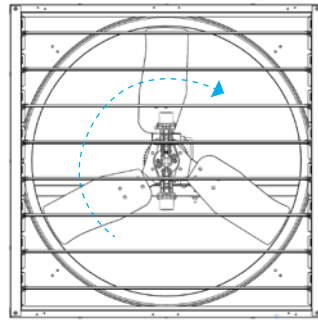

fig. 19
- check that the protection devices (fuses, magnetothermal switches) are correctly sized, and that the phases are connected in the correct order: check that the fan rotates clockwise; look at the exhaust side of the fan and check rotation of propeller (see fig. 19).